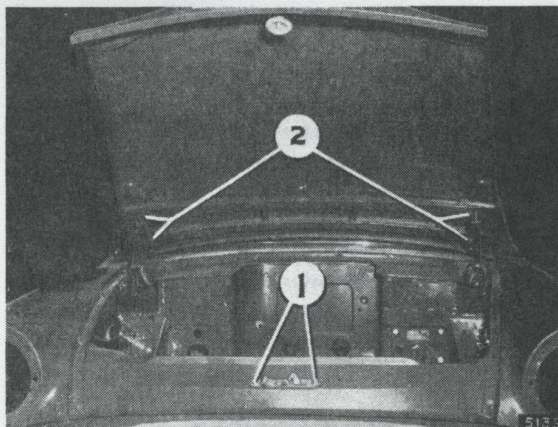

Fig. 26. Bonnet and lock attachment points (Rapier)
Rapier (Fig. 26)
Take out the two bolts with their spring and flat washers (1), (Fig. 26).